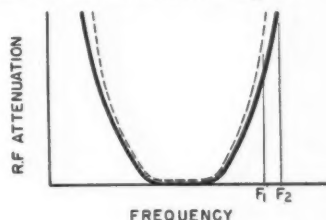

Figure 8
1. The intermediate frequency must be at a sufficiently high frequency that two incoming signals differing in frequency by an amount equal to the intermediate frequency cannot feed through the radio-frequency circuits and cause audible interference (see Fig. 8). This is obviously influenced by the r-f attenuation embodied in the receiver.